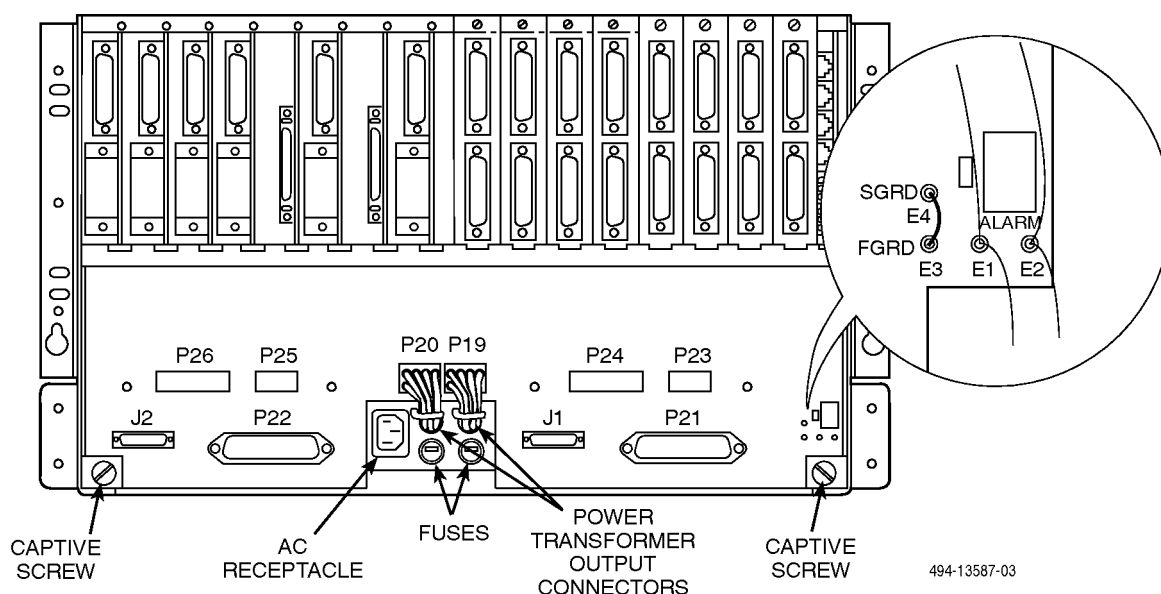

Figure 3-7. COMSPHERE 3000 Series Carrier (Rear)
4. At the rear of the carrier (Figure 3-7), disconnect the ac power cord from the carrier.
3. At the rear of the carrier (Figure 3-7), use the larger screwdriver to engage and tighten the two captive screws that fasten the power transformer unit to the carrier.
If all the DSUs and modems in the carrier are to have frame ground (FGRD) connected to signal ground (SGRD), install a wire strap (provided) between the SGRD and FGRD terminals at the rear of the carrier (Figure 3-7). The terminals are an insulation displacement type, with a slot designed to cut through the insulation on the wire.
If the fan module does not operate, check the fuses on the back of the power transformer unit (Figure 3-7). If the fuses are blown, replace the fuses and determine the cause of the overload. If the fuses are okay, install the fan module in